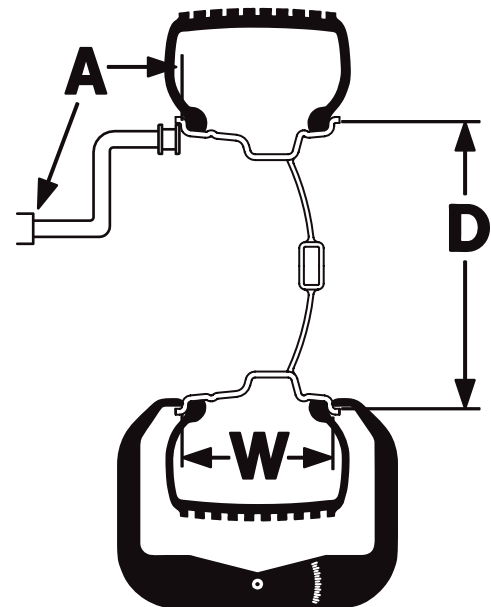

Figure 4 - A, W, and D Tire Dimensions
*Note: Throughout this manual tire dimensions are referred to as A, W, and D, see figure 4.*